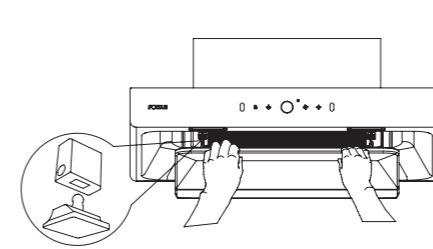
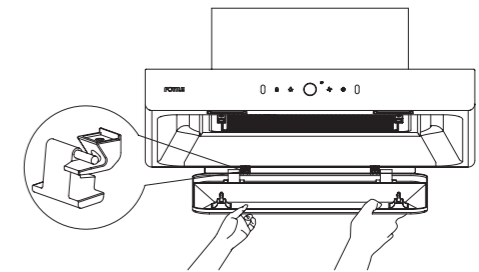
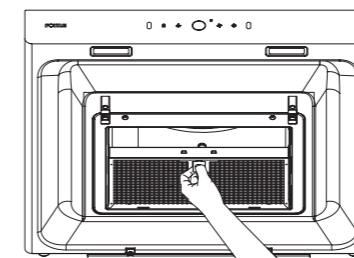
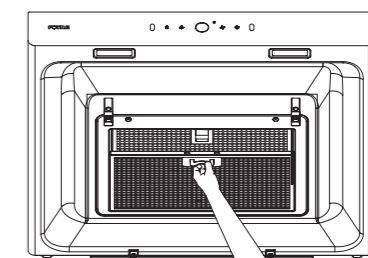

Fig.1
Fig.2
Fig.5
Fig.6
1. Grasp the front edge of wing plate with hands, pull it down to detach the locking tab of the wing plate (Fig. 1). Then flip it down at a certain angle, and remove the wing plate horizontally with hands finally (Fig. 2).
1. First remove the wing plate (see Fig. 1 and Fig. 2);
3. Detach the locking tab of the carbon filter, remove it, replace with a new carbon filter(see Fig.5), and then install the front filter(see Fig.6)and the wing plate(see Fig.2 and Fig.1);
- (Note: ① The carbon filter cannot be cleaned; ② Please purchase the new carbon filter at an authorized Fotile branch.)